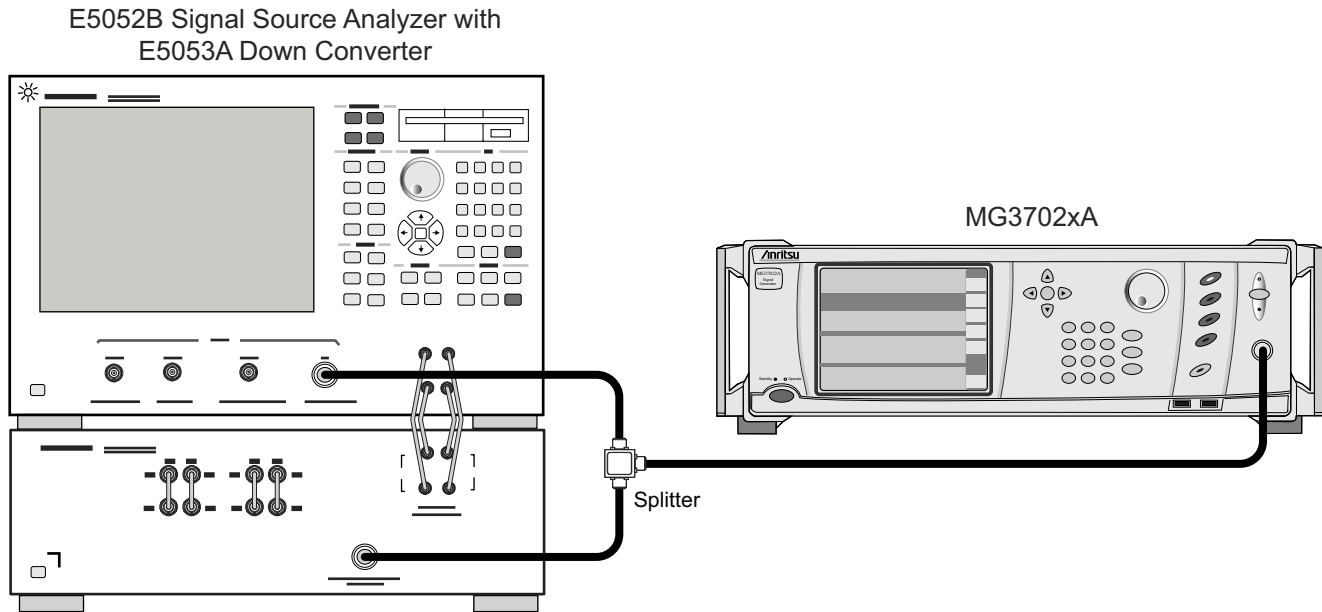

Figure 3-3. Equipment Setup for Single Sideband Phase Noise Test with E5052B and E5053A
5. Connect the MG3702xA as shown in Figure 3-3 on page 3-12.